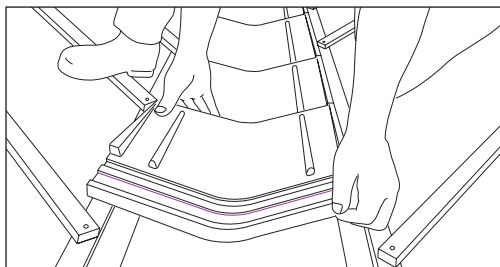

Fig 57 – Ensure correct lap and no sideways movement
- Ensure that each tile is lapped correctly and that there is no sideways movement (Fig 57).